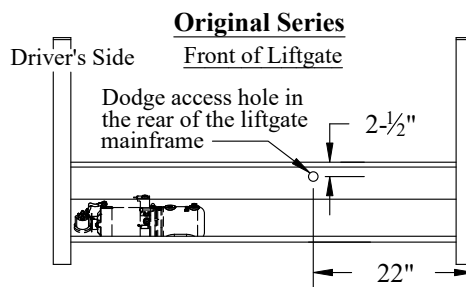

Figure 17: Original Series spare tire access.
2. **Remove and Discard** the black plastic plug from the mainframe at the location shown (Figure 17).